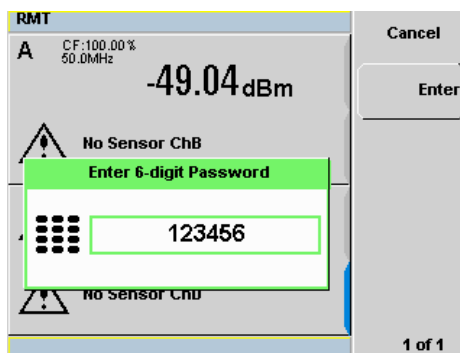

Figure 2-44 6-digit password entered
- 4 The entered password will be displayed (see Figure 2-44). Press **Enter**.